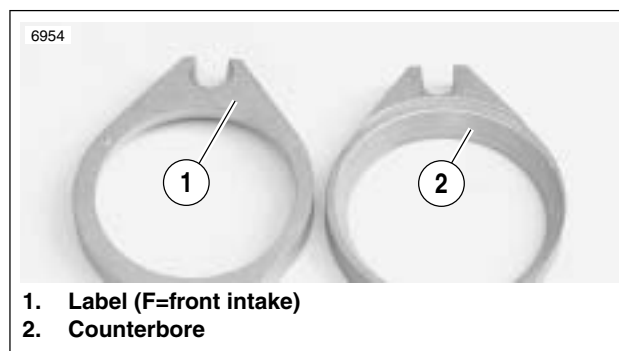

Figure 4-115. Intake Flanges
1. See Figure 4-115. Install front and rear intake flanges onto throttle body with the counterbore facing out. Each intake flange is labeled and the pieces are not interchangeable.